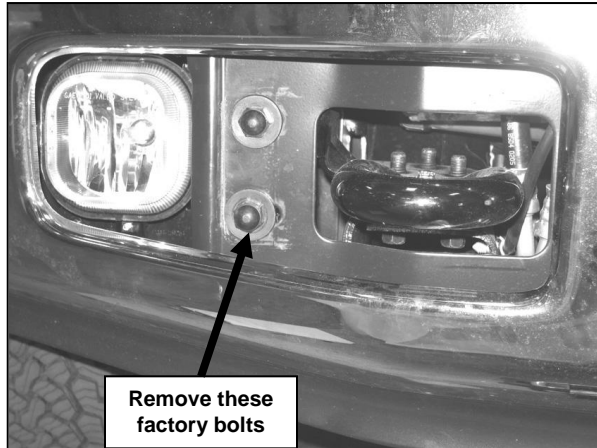

Figure 2
- 3.** From front of vehicle remove the driver side bumper mount bolts (Figure 2).